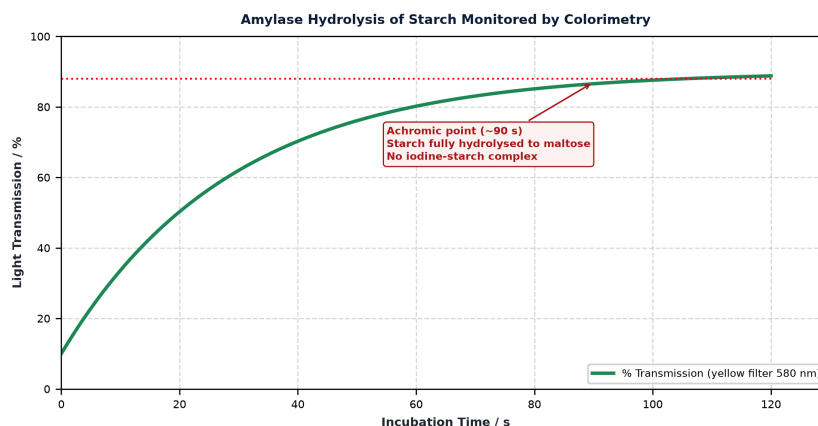

Fig. 3.4: Light transmission percentage vs incubation time during starch hydrolysis by amylase.
The hydrolysis of starch by salivary amylase was monitored in a colorimeter. Samples were withdrawn at intervals, mixed with standardized iodine–potassium iodide solution, and percentage light transmission was measured at 580 nm. Fig. 3.4 shows the results.
- (b) With reference to Fig. 3.4, identify the achromic point of the reaction and explain its biochemical significance. [2]